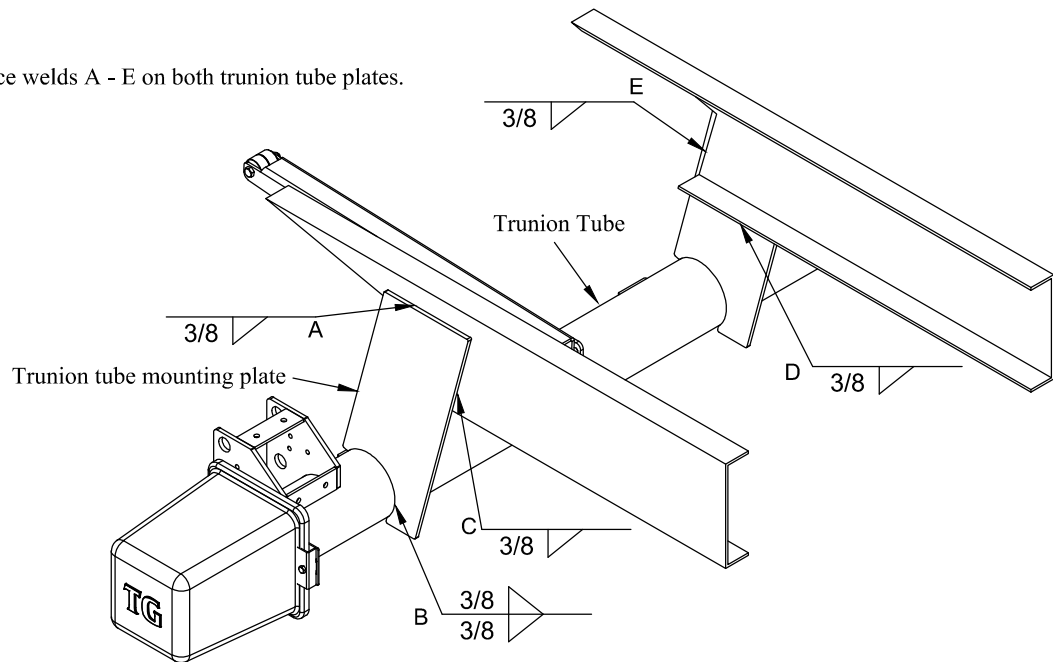

Figure 14: Bed Extension - Finish Weld Locations
- 16. Position** the trunion tube mounting plates on the trunion tube outside of the truck frame (Figure 14).
- 17. Tack Weld** the trunion tube mounting plates to the trunion tube and truck frame using 3/8" fillet welds, 1" long (Figure 14).
2. **Finish Weld** the trunion tube mounting plates to trunion tube and truck frame with 3/8" fillets (Figure 14).